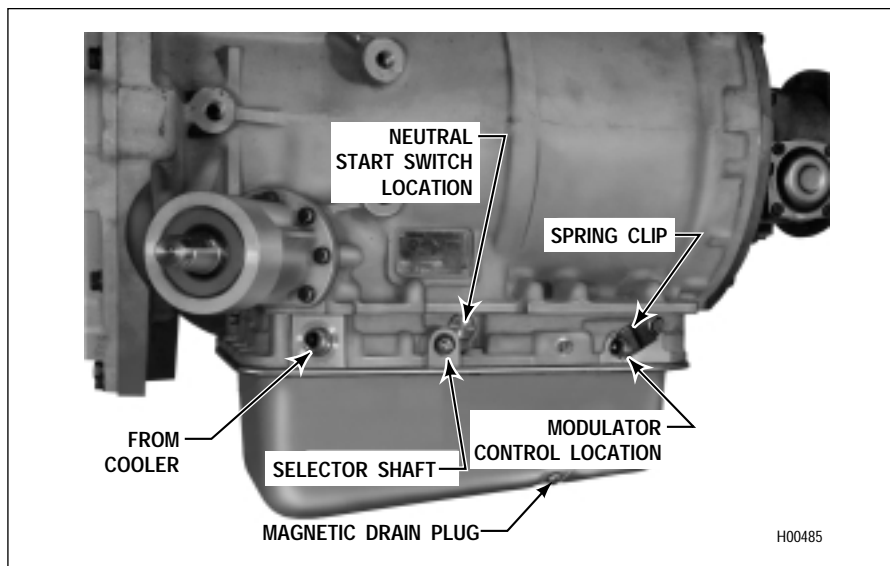

FIGURE 3–2. Partial View of Transmission Right Side
- Install the actuator into its mounting hole (Figure 3–2). The threaded part of the actuator should be positioned toward the top of the transmission.
- Apply Loctite® Sealant with Teflon®, if desired, onto the threads of the neutral start switch. Install the neutral start switch into the tapped opening near the range selector shaft (Figure 3–2). The switch must include an aluminum washer (gasket) approximately 0.090 inch (2.29 mm) thick for earlier models and 0.030 inch (0.76 mm) thick for later models. Tighten the switch to 50–60 lb ft (68–81 N·m).